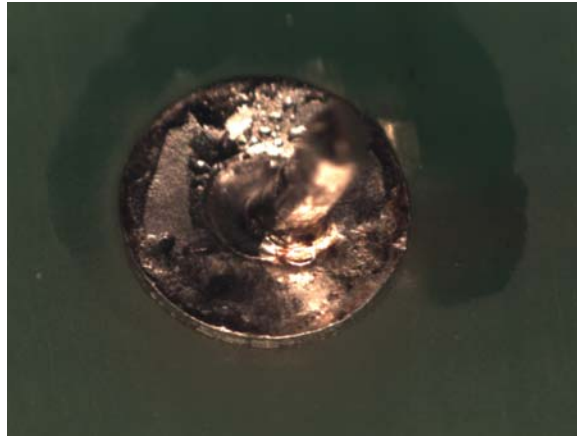

Figure 2 – Not Enough Solder
- Not enough solder: An insufficient solder joint is at risk due to poor mechanical strength. In surface mount applications an insufficient joint can be difficult to see because so much of the solder joint is under the component lead. In through hole applications, there can be poor hole fill that is not visible (Figure 2).